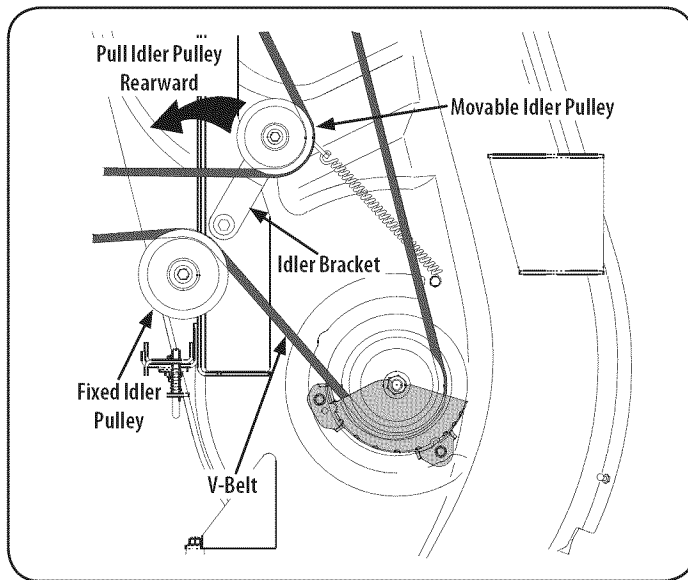

Figure 39
- b. Working from the middle of the riding mower, pivot the idler bracket and movable idler pulley rearward away from the backside of the 'V' belt just far enough to lift the belt up and over the idler pulley. See Figure 39.
- Route the backside of the belt around the fixed idler pulley of the deck. Refer to Figure 39.
- Working from the middle of the riding mower, pivot the idler bracket/movable pulley rearward against the spring tension and slide the backside of the belt onto the movable idler pulley. Refer to Figure 39.
- Make certain the belt is in the spindle pulleys of the deck, and that the backside of the belt is against both the fixed and movable idler pulleys. Refer to Figure 39.
- Install the new belt around the spindle pulleys as shown in Figure 39 and reinstall the belt covers.